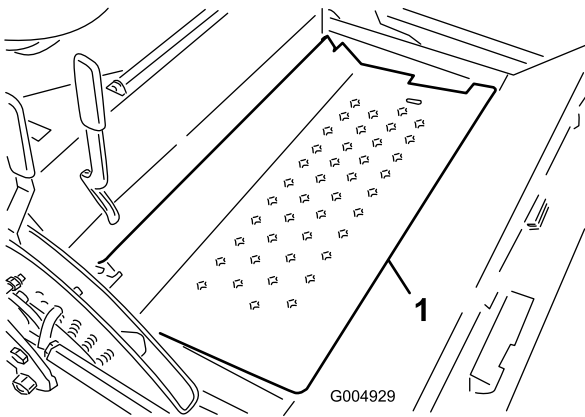

Figure 101
9. Pivot open the floor plate (Figure 101) and secure with prop rod.